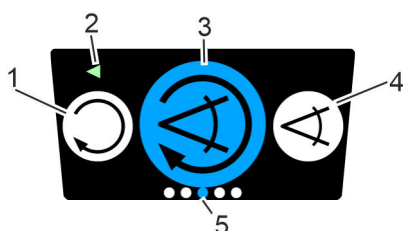

Fig. 28: Navigation
- In the middle, the currently selected menu item (Fig. 28/3)